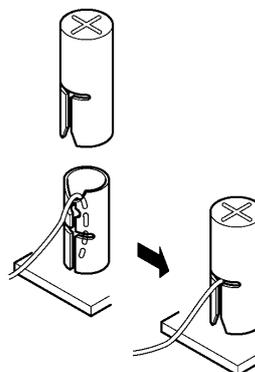

Figure 7-13 Attaching Cables to the ADA-UA Unit
3. Remove the cap on the adaptor terminal to expose the metal receptacle. Push the cable in the applicable receptacle, and replace the cap. Line up the slot on the cap with the slot on the metal receptacle to ensure proper contact. Refer to *Figure 7-13 Attaching Cables to the ADA-UA Unit*.